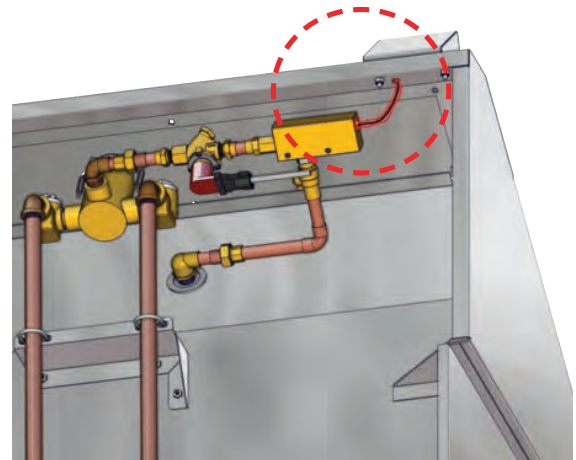

Fig. 32 - Thread Wires Through Grommet Hole
4. Thread the three (3) flow-switch timer wires through the drilled hole on top of the sink (Fig. 32 - circled in red).